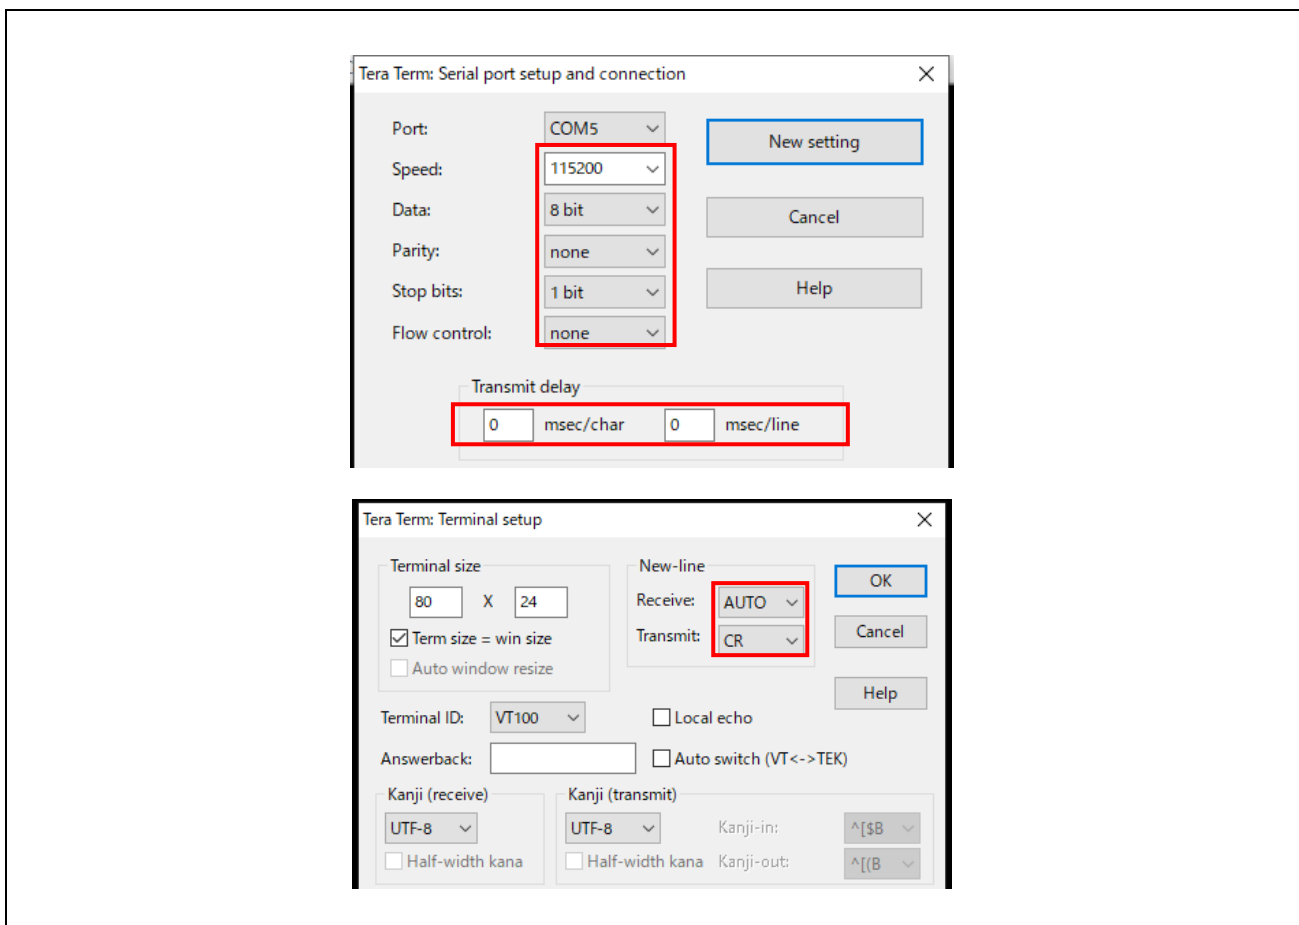

Figure 2.2-1 Settings of Tera Term
3. Connect CN5 of V2MEVK and the Windows PC with a USB cable (standard-A-micro-B) and start Tera Term. See **Figure 2.2-1** for Tera Term settings.
*Note: Figure 2.2-1 shows the configuration for RZ/V2M Linux Package Ver1.2. If you will be using a different version, refer to the RZ/V2M Linux Package Startup Guide for that version.*